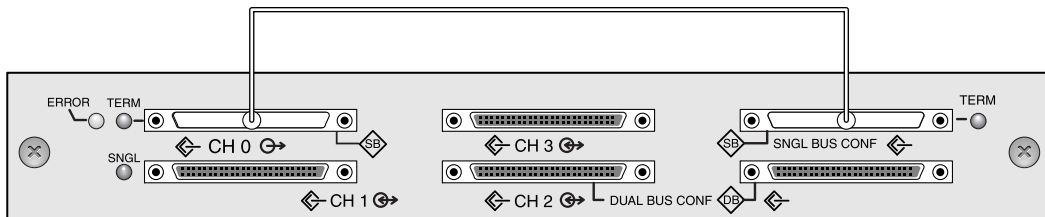

FIGURE 4-10 Single-Bus Connection: All Drives are Assigned to a Single Channel (CH 0)
1. To configure a RAID array as a single-bus configuration, connect the SCSI jumper cable between the SCSI ports labeled “CH 0” and “SNGL BUS CONF” as shown in FIGURE 4-10. Tighten the cable jack screws with six full clockwise turns to ensure proper connection and operation.